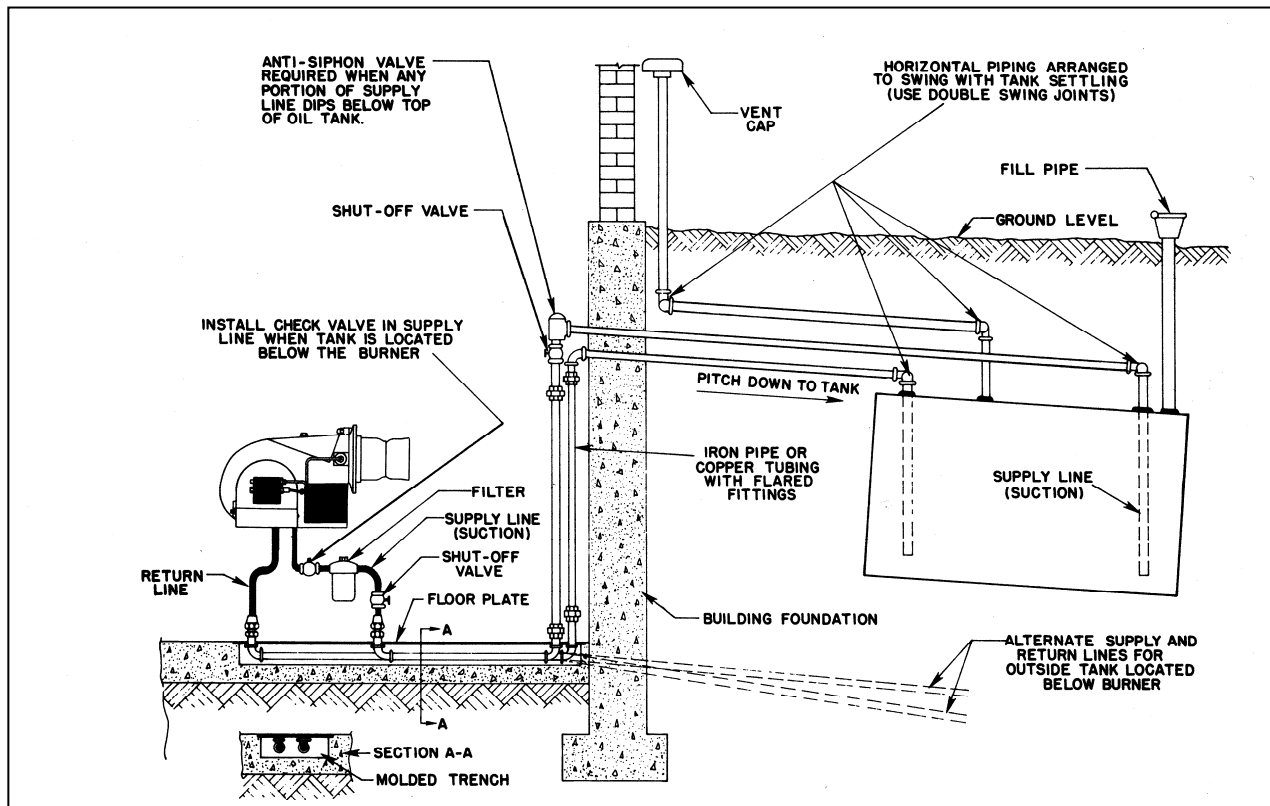

FIGURE 6
1. The oil tank construction and installation must meet local codes and should meet the specifications recommended by Underwriter's Laboratories (see Figure 6).